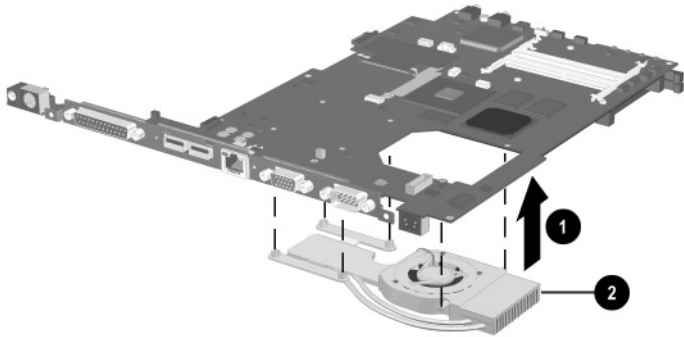

Figure 5-35. Removing the Heat Sink
7. Lift the system board straight up ❶. The heat sink ❷ will remain resting on the work surface (Figure 5-35).